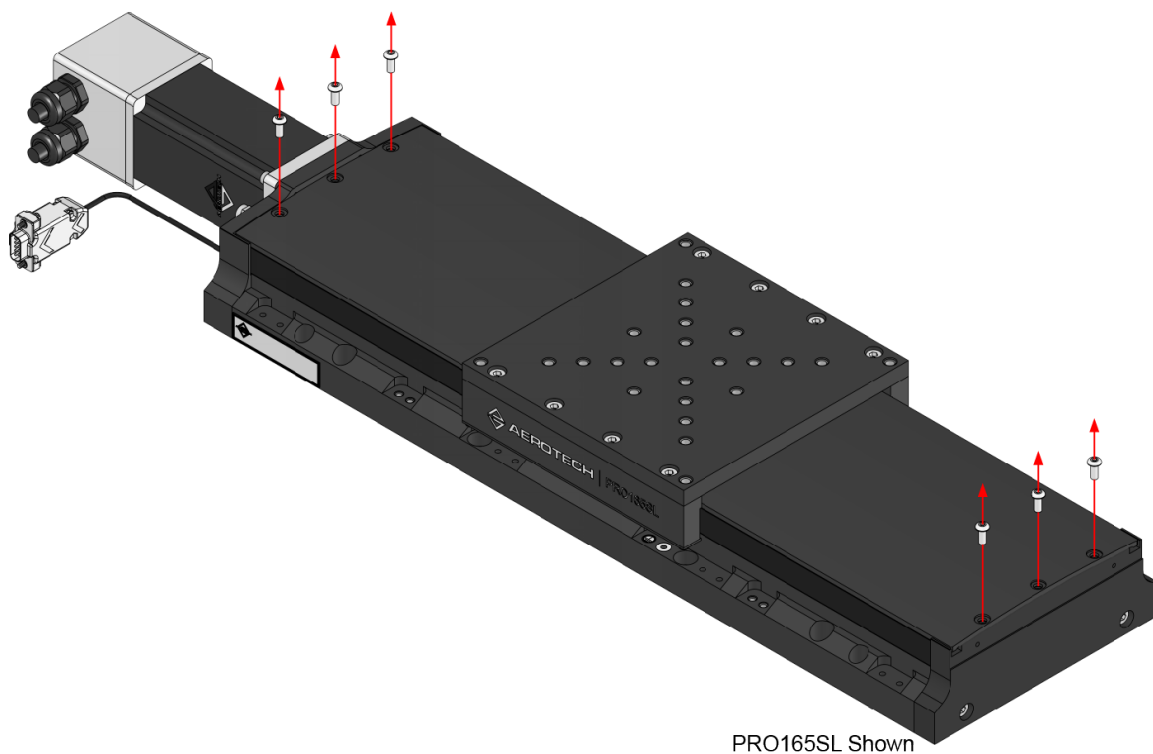

Figure 4-2: Hardcover Removal Procedure (Step 3)
3. Remove the hardcover screws (Figure 4-2).